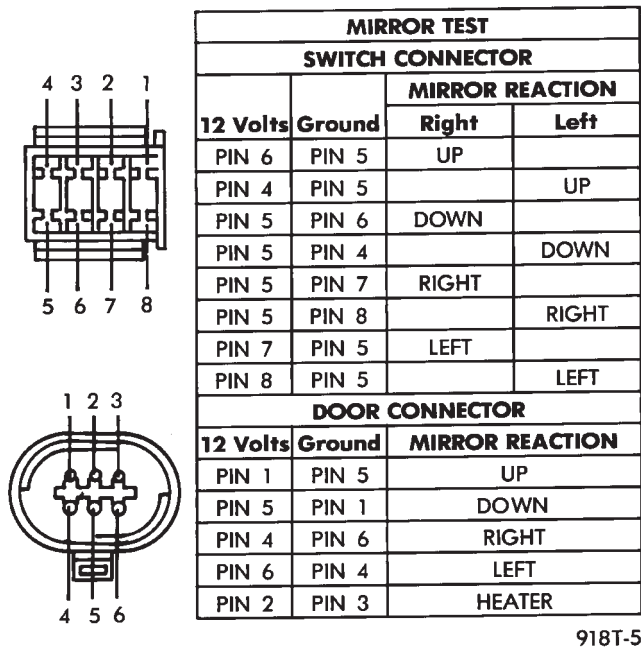

Fig. 5 MIRROR TEST — AG and AJ Bodies
(4) If results shown in the Fig. 5, 6 and 7 are not obtained, replace the switch.